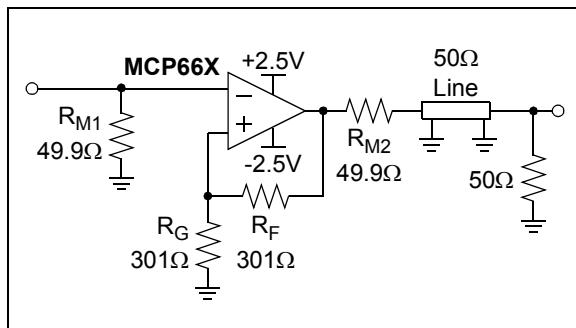

FIGURE 4-10: 50Ω Line Driver.
Differential gain (DG) and differential phase (DP) refer to the non-linear distortion produced by a NTSC or a phase-alternating line (PAL) video component. Table 1-2 and Figure 2-34 show the typical performance of the MCP661, configured as a gain of +2 amplifier (see Figure 4-10), when driving one back-matched video load (150Ω , for 75Ω cable). Microchip tests use a sine wave at NTSC's color sub-carrier frequency of 3.58 MHz, with a $0.286V_{P-P}$ magnitude. The DC input voltage is changed over a +0.7V range (positive video) or a -0.7V range (negative video).
Figure 4-10 shows the MCP661 driving a 50Ω line. The large output current (e.g., see Figure 2-18) makes it possible to drive a back-matched line (R_{M2} , the 50Ω line and the 50Ω load at the far end) to more than $\pm 2V$ (the load at the far end sees $\pm 1V$). It is worth mentioning that the 50Ω line and the 50Ω load at the far end together can be modeled as a simple 50Ω resistor to ground.